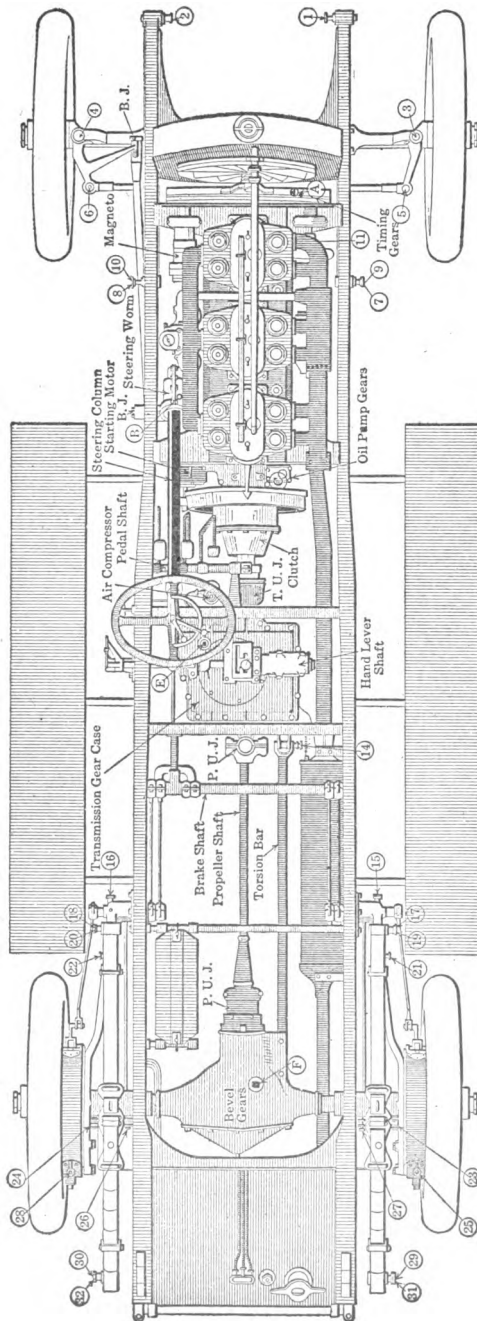

Fig. 228. View of Locomobile Chassis, Showing Complete Oiling System
**Lubricating the Whole Car.** It is best for both the private owner and the repair man to have a definite regular system for going over the grease and oil cups on the chassis. As shown in Fig. 228, there are a number of cups varying from 30 to 32 and upward, as well as oil holes, which need to be looked after occasionally. The worker should get an oiling chart and fix firmly in his mind the requirements of the various parts to be oiled or greased and should regulate his oil and grease cups by hand from day to day and week to week so as to produce the desired results.